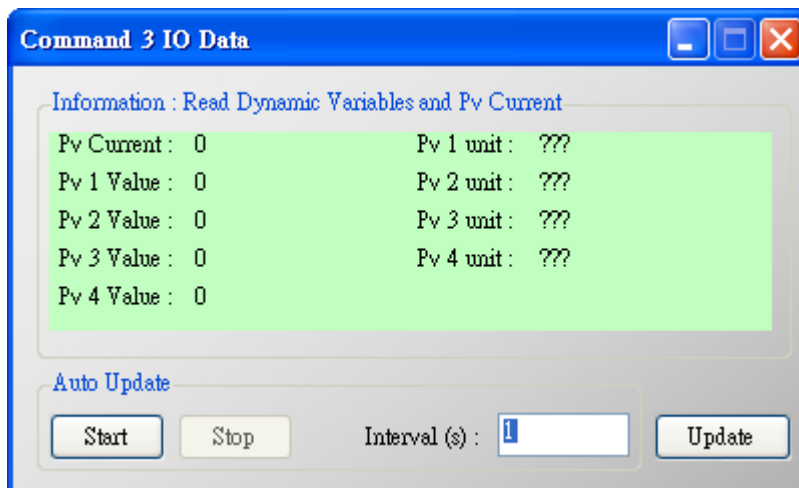

Figure 2-7 The I/O Data screen of the “Default CMD(3)” => NG
(7) The I/O Data of the “Default CMD(3)” is NG like Figure 2-7.